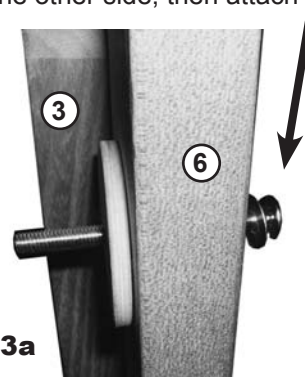

FIG 13a
STEP 13. To secure the H-Frame to the uprights, have one person hold the H-frame while the other inserts one part (G) 6 X 70mm Bolt through the inside edge of the channelled sides and through the other side, then attach one wood washer to the bolt end. See FIG 13a.